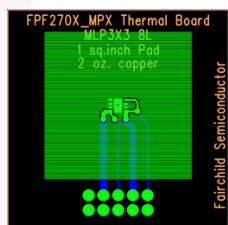

Figure 8. 80°C/W Mounted on a 1in2 Pad of 2-oz. Copper
| P D   | Power Dissipation (T A =25°C) | MLP 3x3 (1) , See Figure 8 |      | 1.25                  | W    |
| θ JA  | Thermal Resistance, Junction to Ambient  | MLP 3x3 (1) , See Figure 8 |      | 80                    | °C/W |